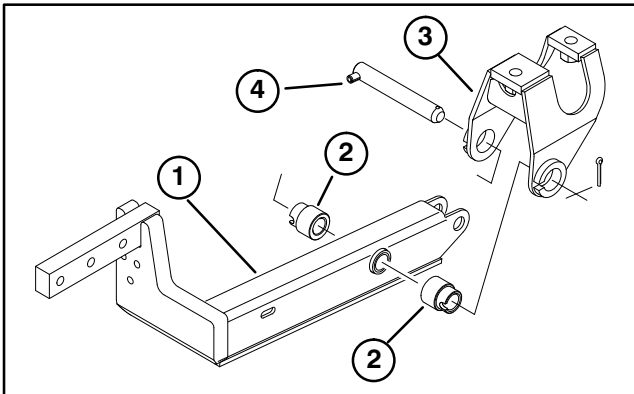

Figure 1
4. Mount a lift arm to pivot bracket with (2) spacers, a pivot pin and 5/32" x 1-3/4" lg. cotter pin. Lift arm to be mounted with bend positioned outward (Fig. 1).